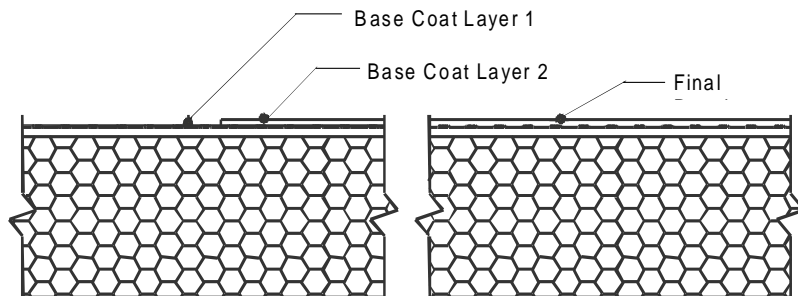

Figure 9
- .1 The base coat shall be applied such that the resulting overall minimum base coat thickness is sufficient to **fully embed** the reinforcing mesh and render a 2.0mm (1/12 in) dry thickness. The recommended method is to apply the base coat in two (2) passes.
- 3) Allow the base coat mixture to take up until firm to the touch. Trowel a second tight coat of the base coat mixture over the first coat to **fully cover** the reinforcing mesh – Figure 9. The result should be such that the reinforcing mesh is approximately centered within the base coat thickness. Do not allow the first pass to completely dry prior to the second pass application or an excessive amount of base coat mixture will be necessary to fully coat the wall surface.